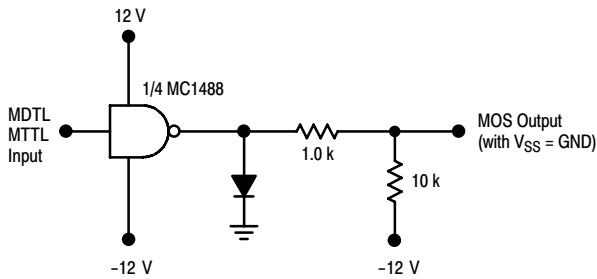

Figure 16. MDTL/MTTL-to-MOS Translator
1. Output Current Limiting – this enables the circuit designer to define the output voltage levels independent of power supplies and can be accomplished by diode clamping of the output pins. Figure 16 shows the MC1488 used as a DTL to MOS translator where the high level voltage output is clamped one diode above ground. The resistor divider shown is used to reduce the output voltage below the 300 mV above ground MOS input level limit.